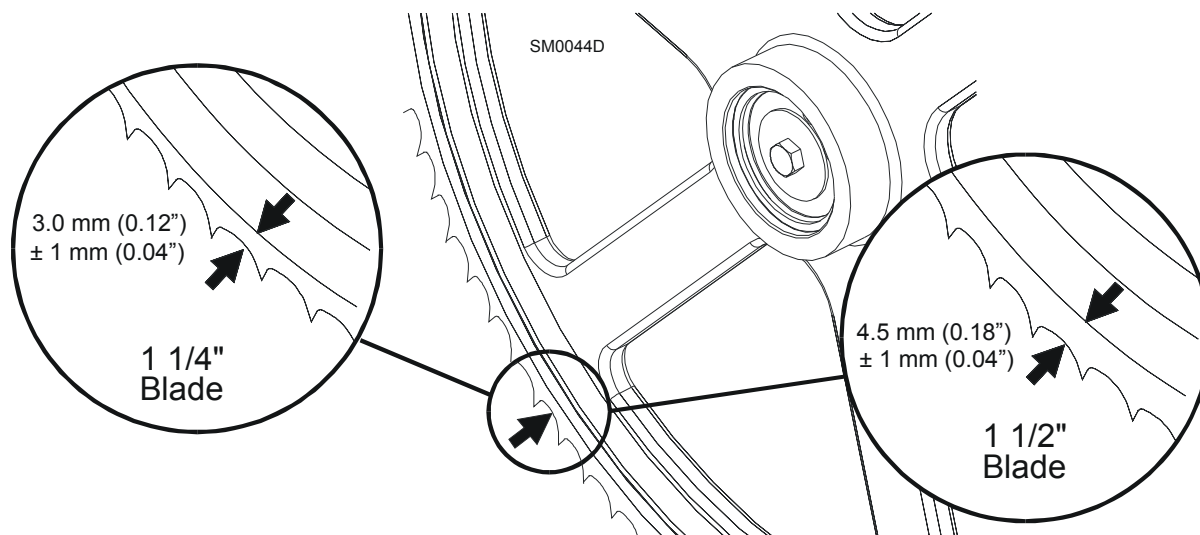

FIG. 5-2
**See Figure 5-2.** The blade wheels should be adjusted so that the gullet of 1 1/4" blades rides 3.0 mm (0.12") out from the front edge of the wheels ( $\pm 1.0$  mm [0.04"]). The gullet of 1 1/2" blades should ride 4.5 mm (0.18") from the front edge of the wheels ( $\pm 1.0$  mm